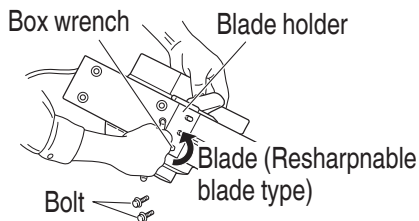

Fig. 9
- (1) As shown in **Fig. 9**, use the box wrench to loosen the three bolts used to retain the carbide blade, and remove the blade holder.
- (1) As shown in **Fig. 9**, use the accessory box wrench to loosen the three bolts used to retain the blade, and remove the blade holder.